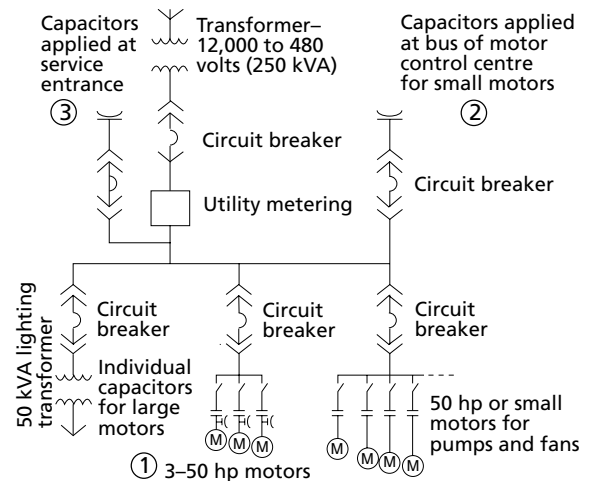

Figure 5: Single-line electrical system showing typical locations for capacitors.
1. For motors of 50 hp and above, it is best to install power factor correction capacitors at the motor terminals (Figure 5, ①) since distribution circuit loading is reduced. Refer to manufacturer's instructions for recommended maximum capacitance ratings. When this is done, motor settings that are over current protection relays must be adjusted down accordingly.
2. The second arrangement (Figure 5, ②) shows capacitor banks connected at the bus for each motor control centre. This compromise to Method 1 will reduce installation costs.
- The least expensive method (Figure 5, ③) shows capacitor banks connected at the service entrance. However, the disadvantage is that higher feeder currents still flow from the service entrance to the end of line equipment.